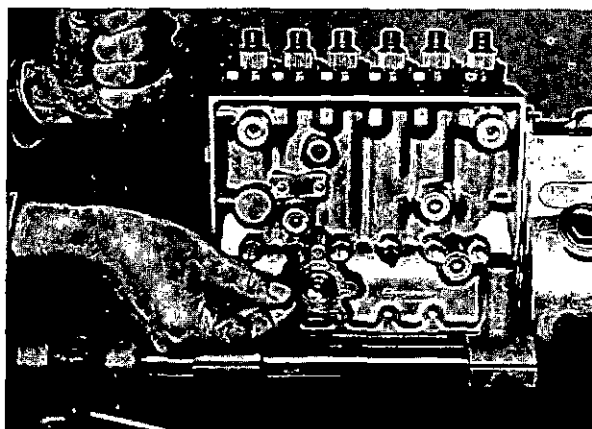

Fig. 38 Removing tappet holders.
17. Turn the pump upright. In turn, bring each tappet to TDC and unscrew the tappet holder 1 681 115 12F (fig. 38). When all tappet holders are removed, fit the blanking screws to the tappet access holes.